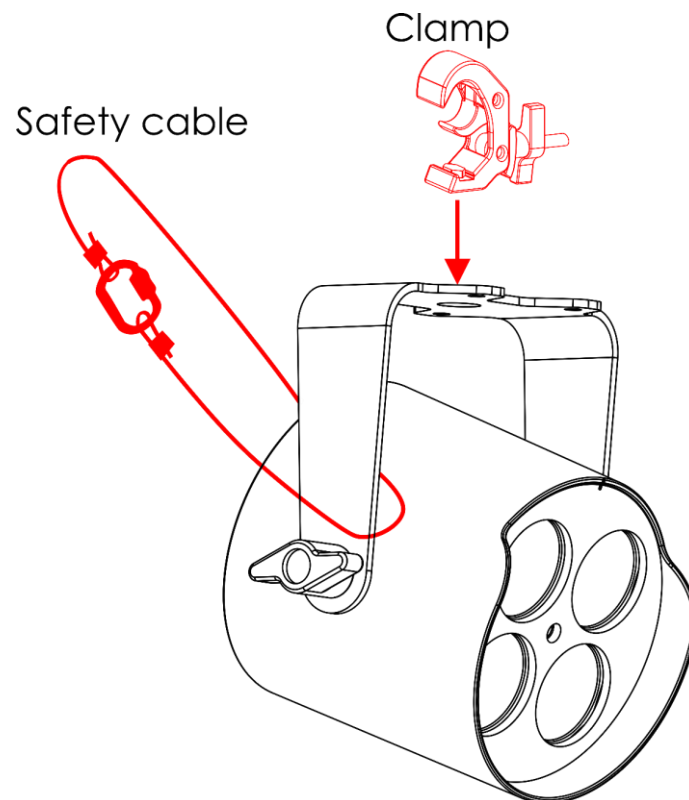

Fig. 05
- 01) Use a clamp to attach the device to the supporting structure, as shown in Fig. 05. Make sure that the device cannot move freely.
- 02) Secure the device with a secondary suspension, for example a safety cable. Make sure that the secondary suspension can hold 10 times the weight of the device. If possible, the secondary suspension should be attached to a supporting structure independent of the primary suspension. Put the safety cable through the **mounting bracket (01)**, as shown in Fig. 05.